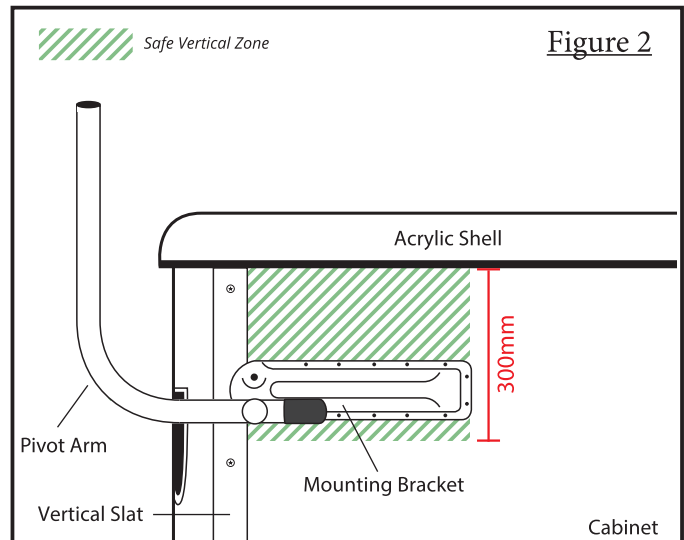

Figure 2
Your spa may have obstructions on the cabinet that get in the way when trying to install the cover lifter's mounting brackets such as logo plates or docking stations etc. Take these into consideration when planning your mounting position as you will have to mount above or below these obstructions. You must still adhere to the vertical safe zone outlined in 'Figure 2'. DO NOT MOUNT ABOVE MUSIC DOCKING STATIONS.
Thread a washer (M) and locknut (L) onto the hex cap bolt and tighten gently, enough so that the pivot arm (D) moves freely on the mounting bracket and is secure but not too stiff. Rotate the pivot arm into the upright position as seen in 'Figure 2' if it is not already.
Take a bracket assembly and press it against the spa cabinet. Gently slide the bracket assembly to the left/right (depending on side of spa and bracket arrangement you are using) as far as possible until the locknut (on the back face of mounting bracket) rests up against the edge of the vertical slat but does not sit on top of it. The curve of the plastic bracket may overlap the vertical slat, but ensure the locknut stays butted up against the edge of the vertical slat. (See vertical slat marked in 'Figure 2').